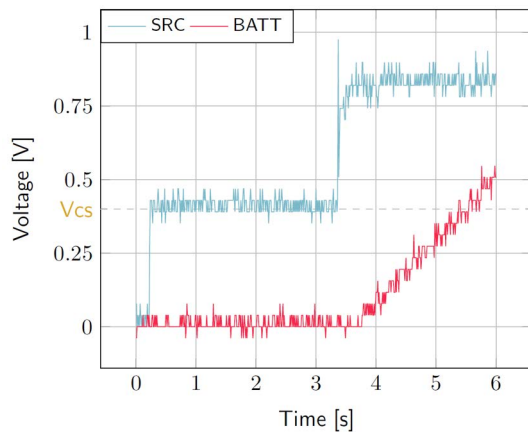

Figure 6: AEM00940 behavior during cold start
- *SRC*: Equal to the cold-start voltage during the cold-start phase. Regulated at the selected voltage when cold start is over. (See Figure 6). Be careful that the cold-start phase time will shorten with the input power. Limit it to ease the observation.
- *BATT*: Starts to charge when the cold-start phase is over (see Figure 6).